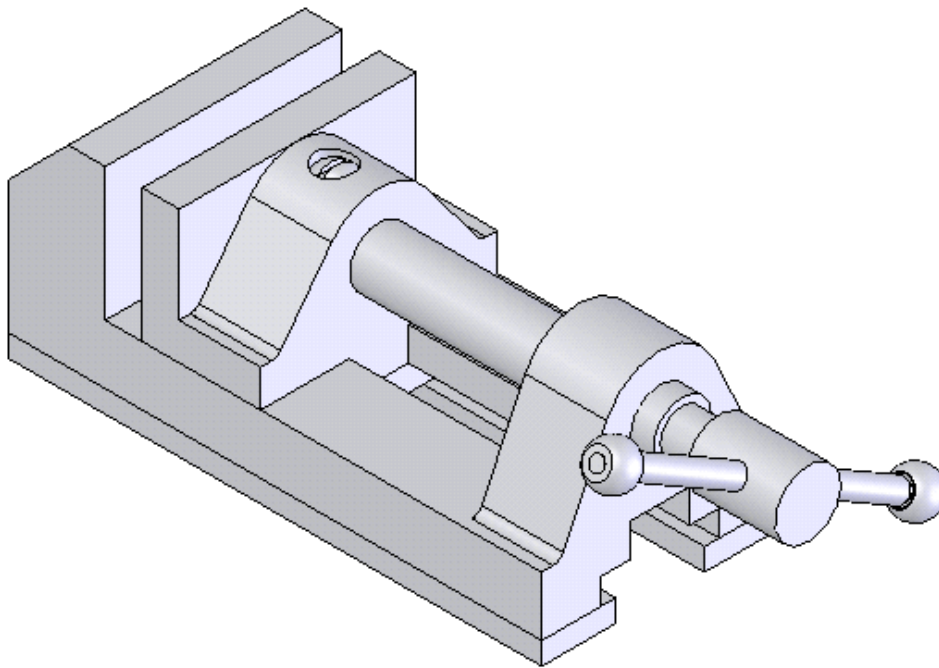
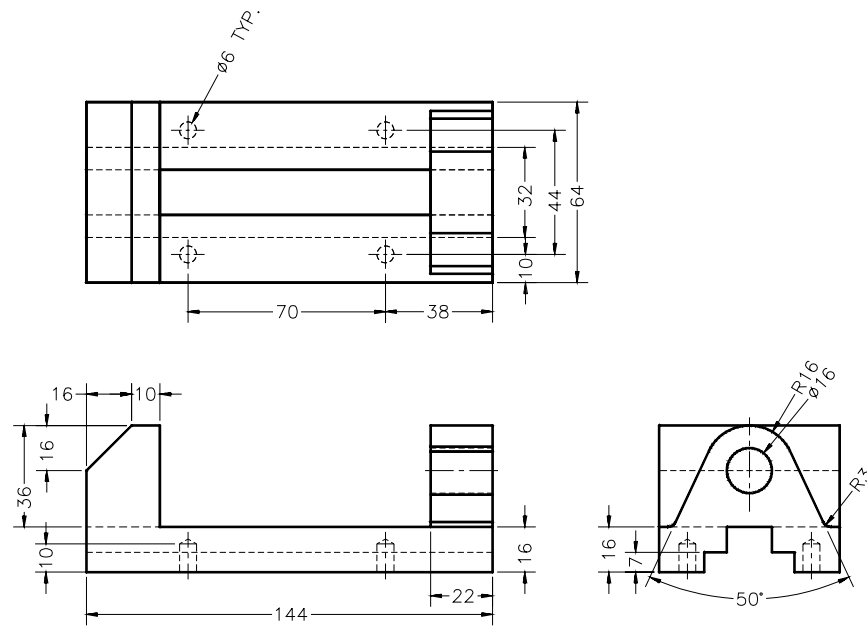

Figure 10-49 Bench Vice assembly
Figure 10-50 Views and dimensions of the Vice Body
In this tutorial, you will create all components of the Bench Vice and then assemble them. The Bench Vice assembly is shown in Figure 10-49. The dimensions of various components of the assembly are given in Figures 10-50 through 10-53. **(Expected time: 2 hrs 45 min)**
- Create all the components of the Bench Vice assembly as separate part documents. Specify the names of the documents as shown in Figures 10-50 through 10-53. The files should be saved in the folder `\My Documents\SolidWorks\c10\Bench Vice`. Make sure that the *Bench Vice* is your current folder.